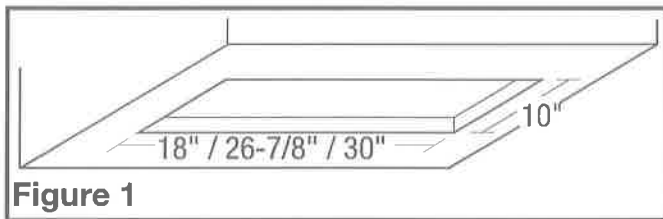

Figure 1
1. Most building codes require noncombustible material above the cooking surface. If you have wood or some other combustible material on the bottom of your cabinets it is recommended that you use the optional hood liner (See Section 3) if you have noncombustible material cut an appropriate size hole into the cabinet or canopy the power unit will be mounted into (Figure 1):